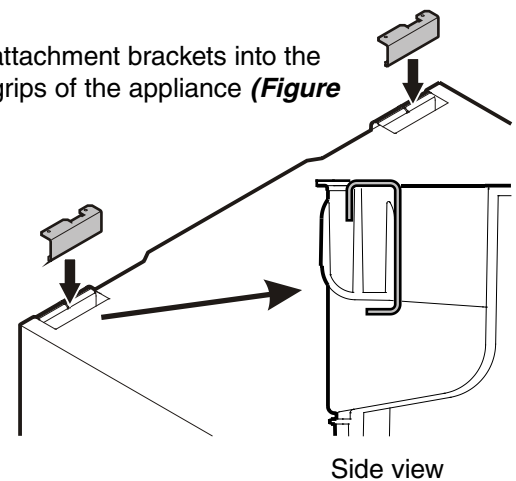

Figure 10
2. Clip both attachment brackets into the transport grips of the appliance (**Figure 10**).